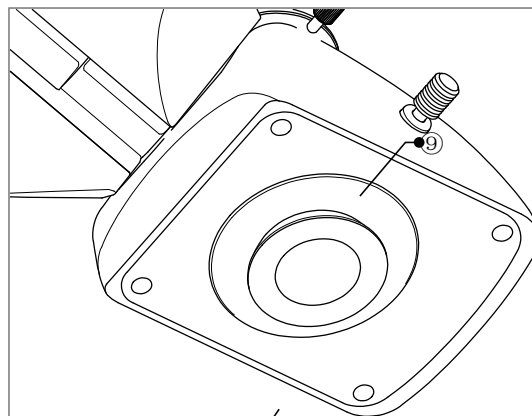
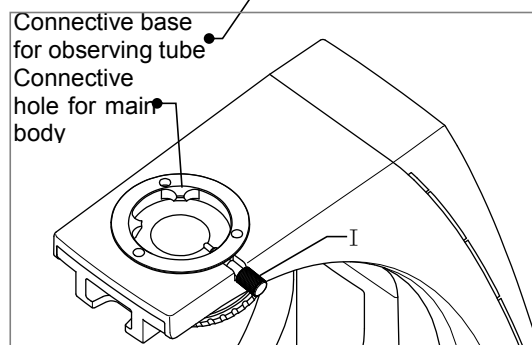

Fig. 3-3
Fig. 3-4
Loosen Locking screw for observing tube I (not unscrew completely), take seidentopf trinocular head ⑨ out, then jointing seidentopf trinocular head's taper connective base (Fig. 3-3) and connective hole which on the stand top(Fig. 3-4). Finally, adjusting eyepiece tube direction, locking screw ( I ) and fixing the trinocular head ⑨.